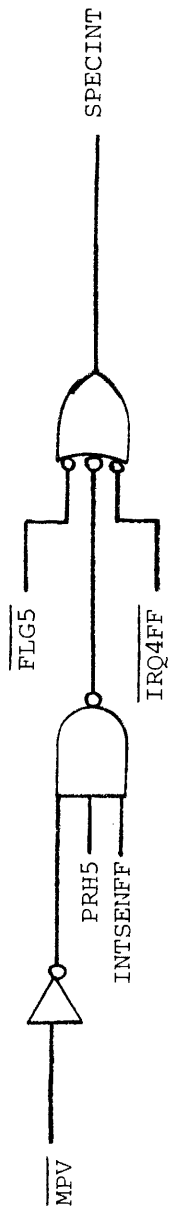

Figure 8
- d. If IEN5 and PRH5 are asserted, generate a Special Interrupt Request (refer to Figure 8). This allows MPV interrupts to occur before the next instruction is fetched.